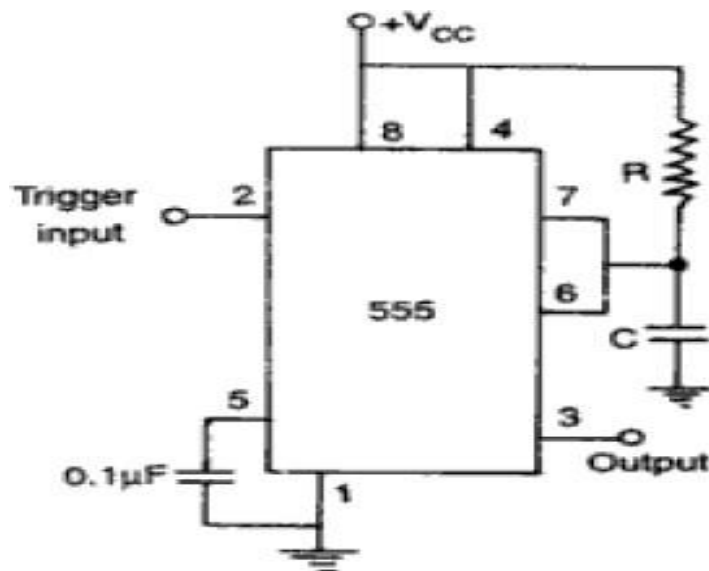
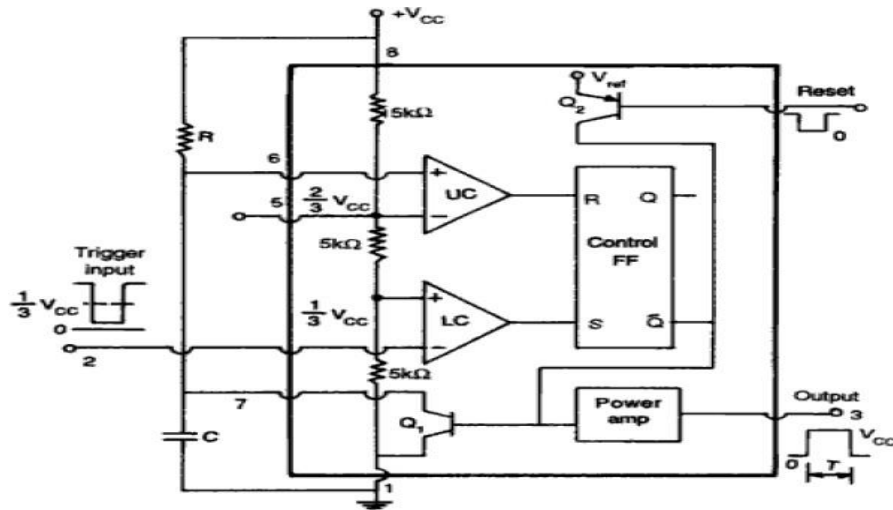

Fig. 8.3 Monostable multivibrator
Fig. 8.4 Timer in monostable operation with functional diagram
- Figure 8.3 shows a 555 timer connected for mono stable operation and its functional diagram is shown in Figure 8.4